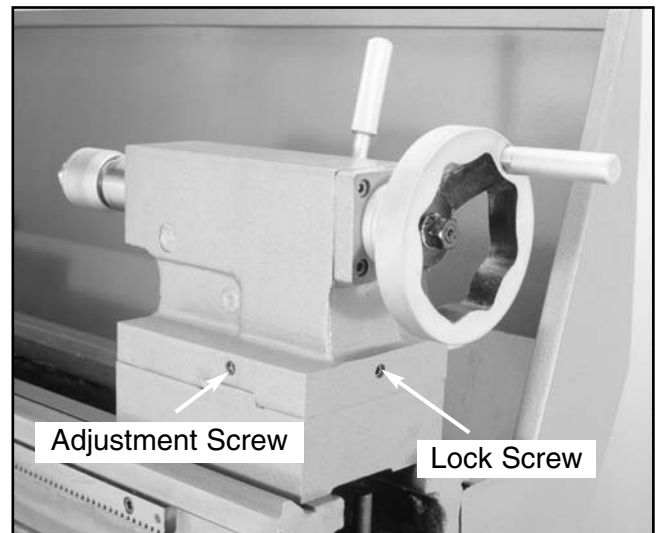

Figure 32. Tailstock offset adjustment screw.
7. Loosen the tailstock mounting bolt. Adjust the tailstock offset by the amount of the taper by turning the adjustment setscrews. **See Figure 32.** Turn another .010" off of the stock and check for taper. Repeat as necessary until the desired amount of accuracy is achieved.